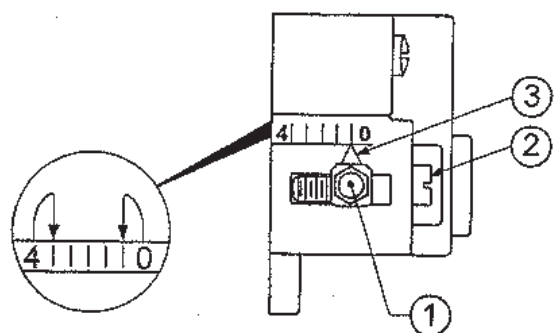

Figure 8: Turbulator Setting
- f. **Turbulator Setting**, refer to Figure 8.